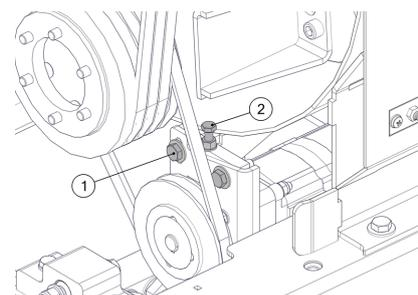

Figure 28 - Pump belt adjustment
2. Loosen the two M10 bolts on the hydraulic pump mounting pad (Figure 28, Item 1).
3. Loosen the M8 lock nut on the drive belt tensioning bolt (Figure 28, Item 2).